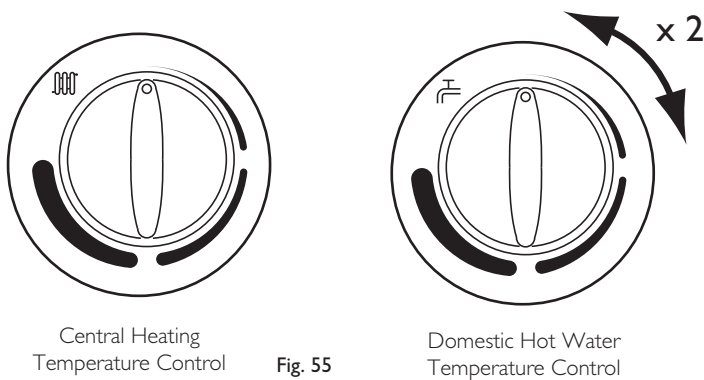

Fig. 55
3. Turn both temperature control knobs fully anticlockwise, then quickly turn the DHW temperature knob 1/4 clockwise twice and back fully anticlockwise (Fig. 55).